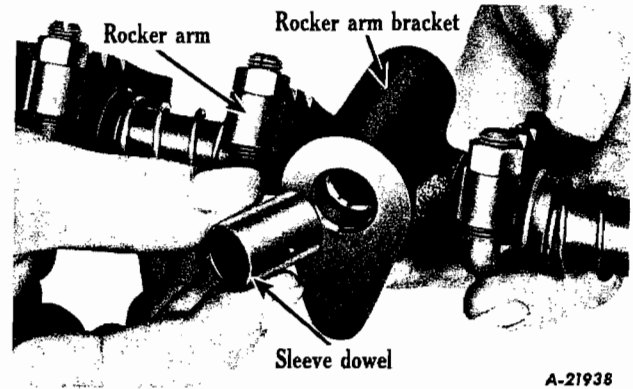

Fig. 74
2. **INSTALL VALVE ROCKER-ARM ASSEMBLY.** Insert 12 valve lifter rods in cylinder head, make sure they enter the valve tappet. Lift the valve rocker-arm assembly into position on cylinder head with the drilled oil bracket placed third from front. Make sure number 2, 4, and 6 bracket sleeve dowels are in place (Fig. 74). Install the remainder of cylinder-head bolts and tighten alternately and evenly in sequence to 90 foot-pounds.